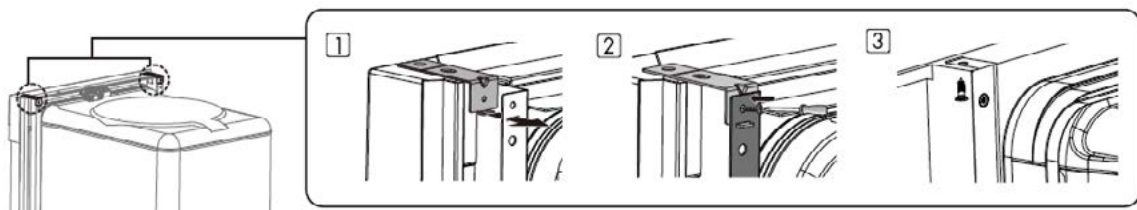

Figure 8
1. Put a large towel into the bottom of the dishwasher to prevent wood shavings or a dropped screw from falling into the dishwasher. Carefully drill screw holes into the countertop bottom by passing the drill bit through a screw hole in each bracket, and then drilling into the countertop bottom beneath. Make sure the hole you drill is smaller than the diameter of the screw. Next, put the installation bracket into the slot of the side frame and tighten to the dishwasher with screw ST3.5*9. Then, insert the provided screws into the brackets and tighten to secure the dishwasher to the countertop. See Figure 8 on the next page.